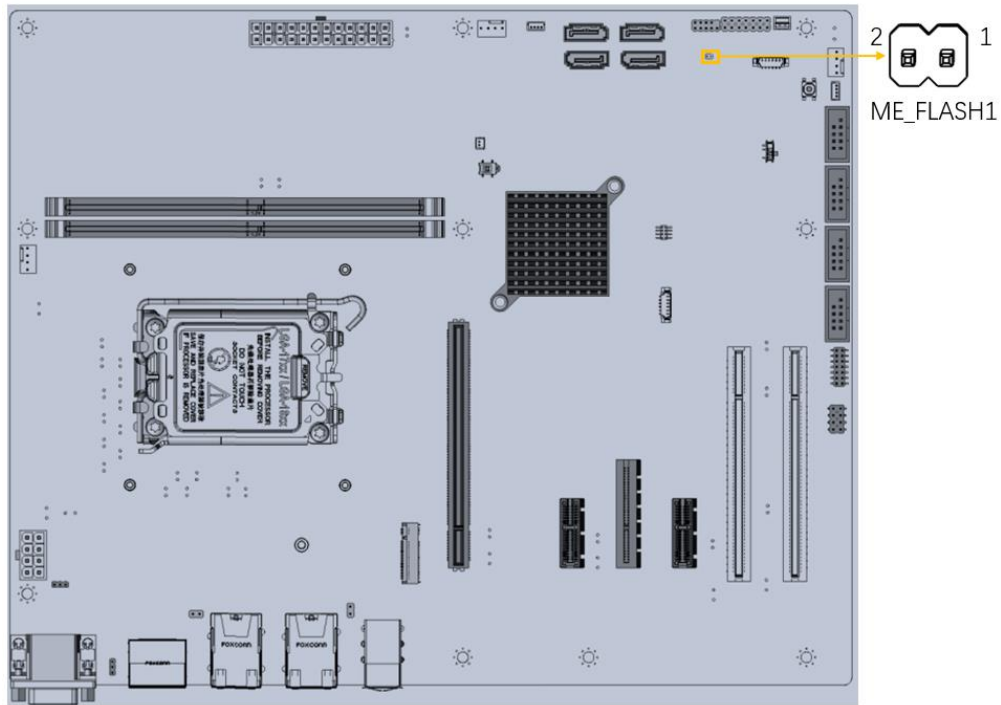

Figure 3-5: Flash Description Security Override Connector Location
- CN Location:** See Figure 3-5